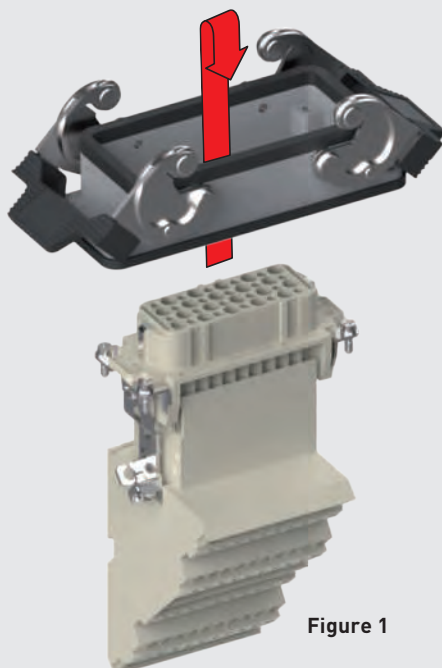

Figure 1
CT series inserts (10A max versions) are supplied in the plug or socket versions and must be mounted with insertion from the rear of the enclosure (Figures 1 and 2), as the space occupied by the terminal block does not allow for the passage of the insert and insertion from the front of the enclosure.
**Figures 1 and 2** (rear mounting)